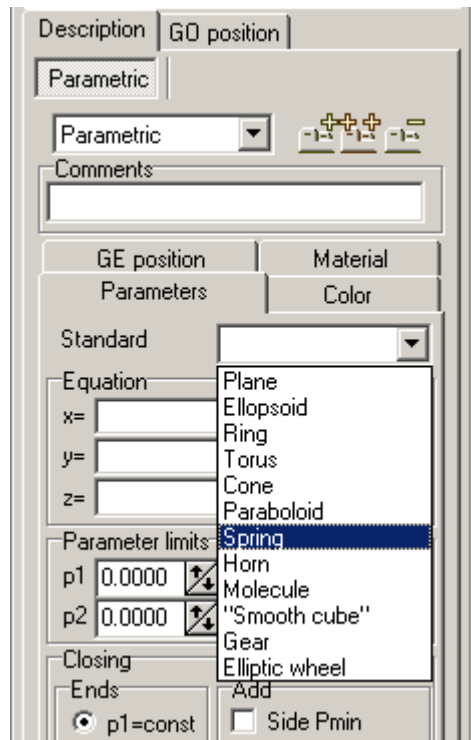

Figure 3.6.
6. Select **Spring** in the list of the standard parametric GE (Fig. 3.6)